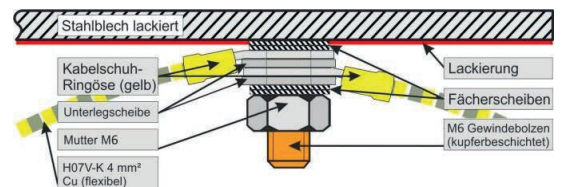

Figure 2
The earthing cables (A) must be connected as shown in Fig. 2. Put a serrated lock washer (D), then the ring eye of the earthing cable (A), a washer (C), the ring eye of the earthing cable (A), another washer (C) and another serrated lock washer (D) onto the threaded bolt of the housing frame. Then screw a nut (B) onto the threaded bolt and tighten it with a tool. Use the sheet-metal screws (E) and the washers (C) to mount the housing frame onto the rear wall (perforated metal sheet).